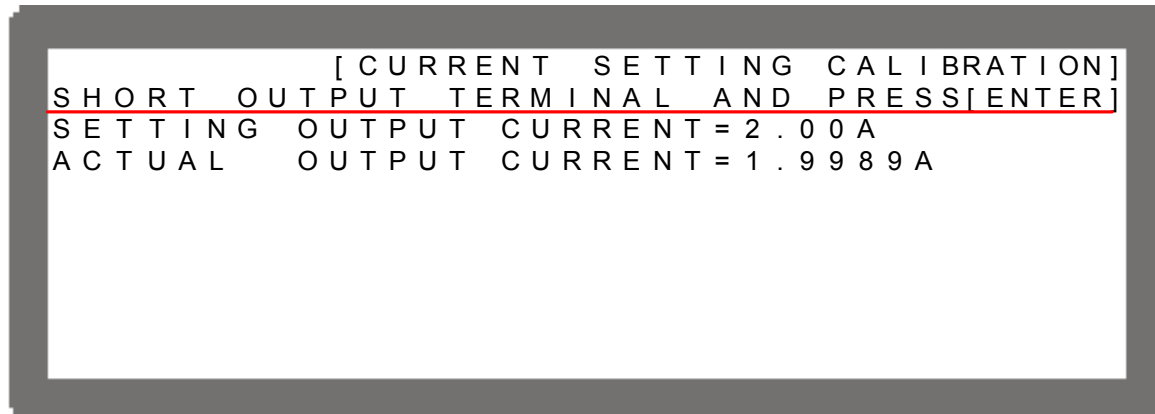

Figure 3-111
3. Press "**ENTER**" to confirm and entering into current calibration options as Figure 3-111 shows.